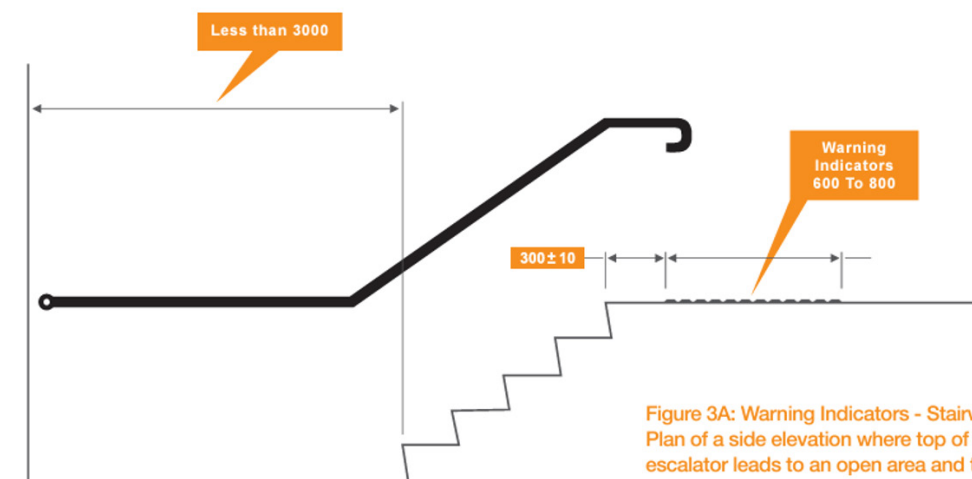

Figure 3A: Warning Indicators - Stairways
- o Warning indicators must be set back from the top of stairs, escalators, ramps, and moving walks by  $300 \pm 10$  mm, and form a 600 to 800mm 'pad' (see Figure 3A and 4A).